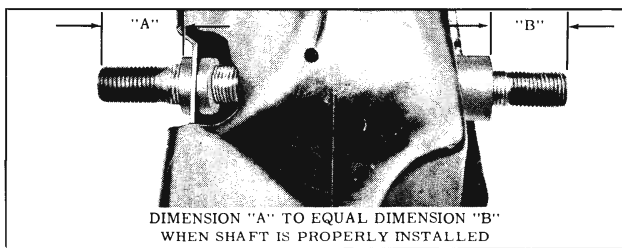

Fig. 5-108 Position of Lower Shaft
4. Thread shaft into cross bar until it extends equal distance out the front and rear of cross bar, approximately 1-11/16". (Fig. 5-108) It must be measured for accuracy.